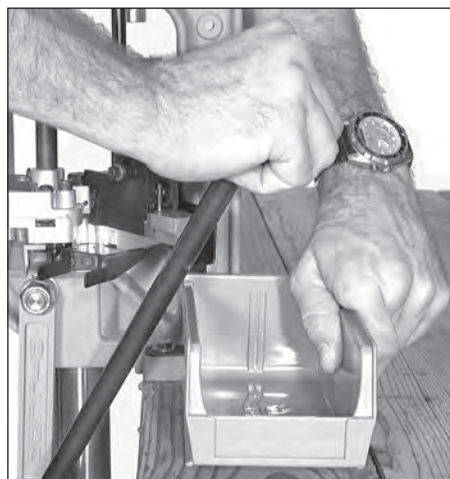

FIG 8
3. Place the cartridge bin on the chute/bin bracket. Push the handle aft **FIG 8** while sliding the bin toward the handle as shown. With the handle pushed to its full aft position, there should be a space between the handle and bin.